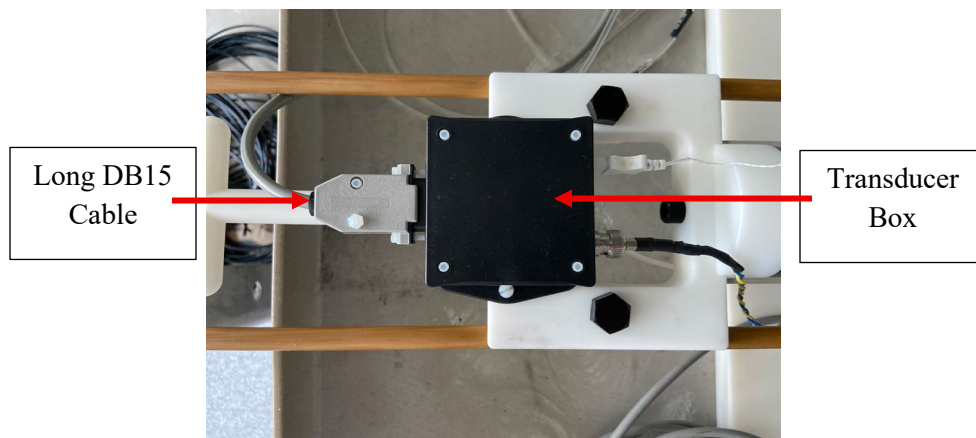
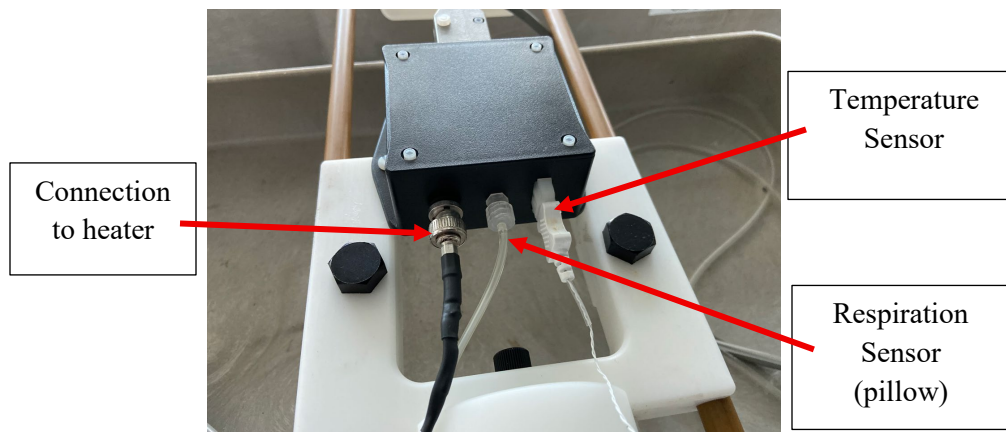

Figure 4.1
Figure 4.2
- The transducer box (Fig 4.1) should be already attached to the animal support bed and the connections for the temperature sensor, the heater, the respiration pillow, and the other end of the long DB15 cable (Fig 4.2)